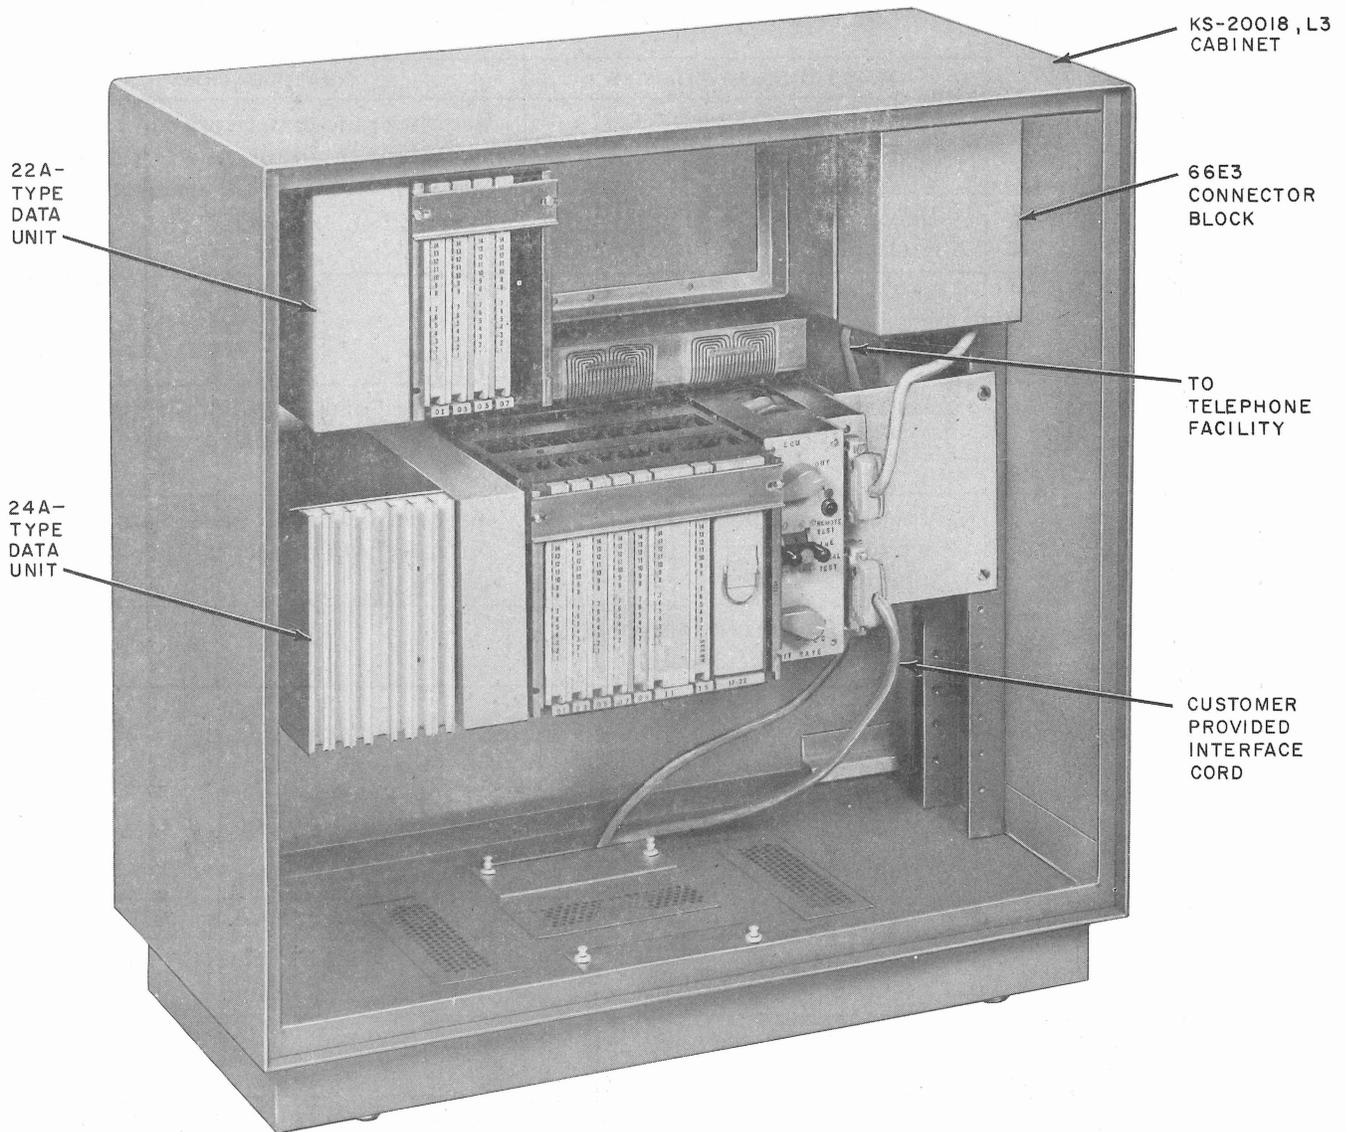

Fig. 3—Typical Data Set 203B-Type With Front Cover Removed
**1.05** A typical data set 203-type installation with a data auxiliary set (DAS) 804A-type is shown in Fig. 1. A typical data set 203A-type with the front cover removed is shown in Fig. 2. A typical data set 203B-type with front cover removed is shown in Fig. 3. Table A lists the optional data units and the DAS used with data set 203-type. Table B lists the functions and associated data units for the main data set codes without regard to the speed or functional options.